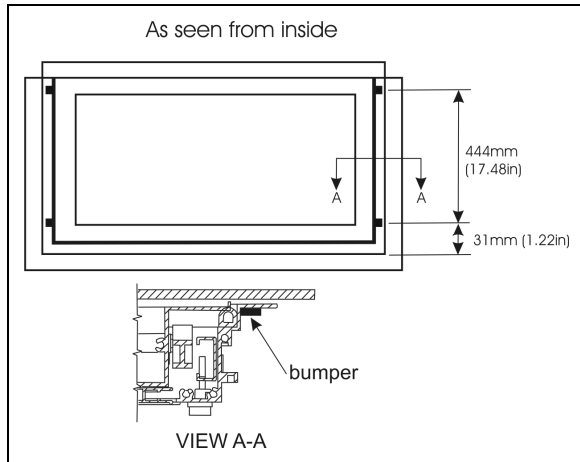

FIGURE 62: SIDE BUMPERS
3. Glue 4 rubber bumpers (#790610) on the awning window frame as per FIGURE 62.